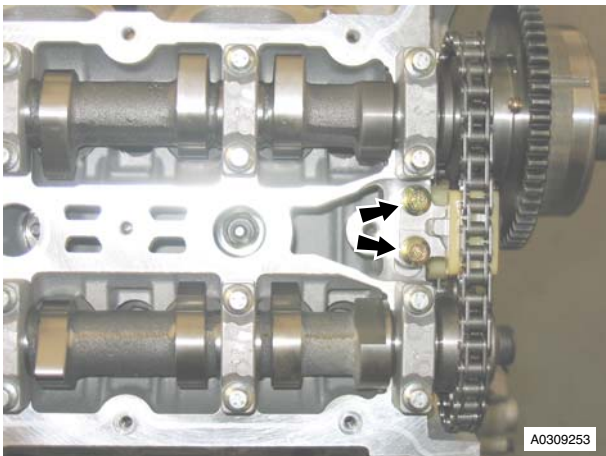

Figure 2
3. Remove the two M6 bolts that attach the secondary timing chain tensioner to the cylinder head (refer to Figure 2).